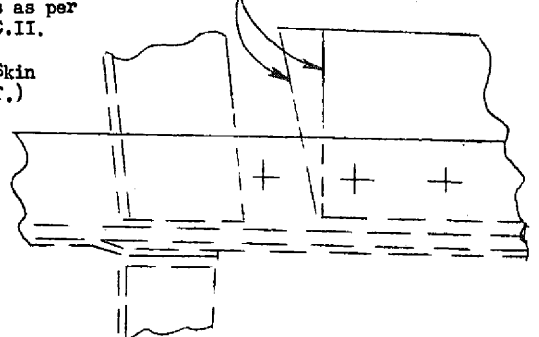

FIGURE 4
- III. If an edge distance of 2D on rivet at ends of splice adjacent to stringers cannot be maintained, trim end(s) of formed splice such that 2D edge distance on second rivet from stringer can be maintained. See Figure 4.